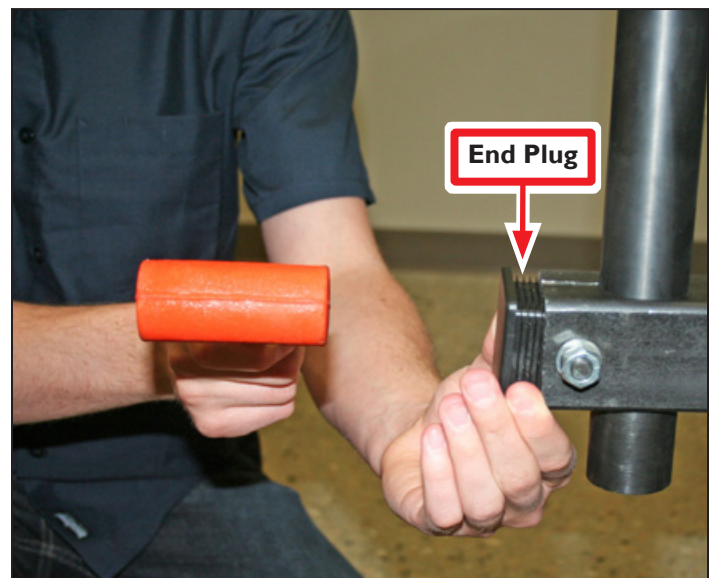

Figure 3
5. Use a dead-blow hammer (or similar) to tap the end plug into the square tube arm (see **Figure 3**).